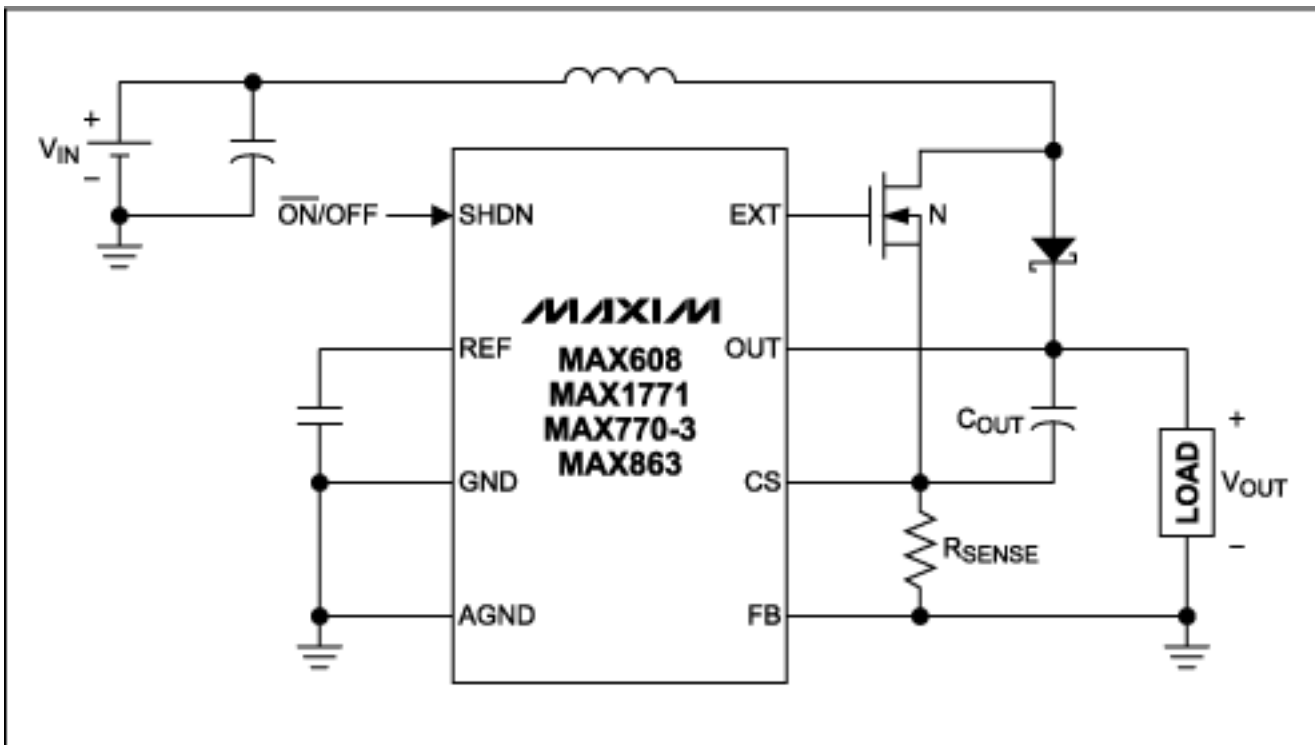

Figure 1. Connecting the  $C_{OUT}$  capacitor to CS instead of ground causes load-dependent current limiting, which reduces  $I^2R$  loss.
A simple modification to the standard application circuit for a high-efficiency PFM boost controller (**Figure 1**) yields even higher efficiency. By increasing the value of  $R_{SENSE}$  and connecting the output filter capacitor to the current-sense pin (CS) instead of ground, the circuit's current limit is made dependent on load current. The result is lower  $I^2R$  loss (in the inductor, MOSFET, and output-capacitor ESR), which gives better efficiency for light-to-medium loads.